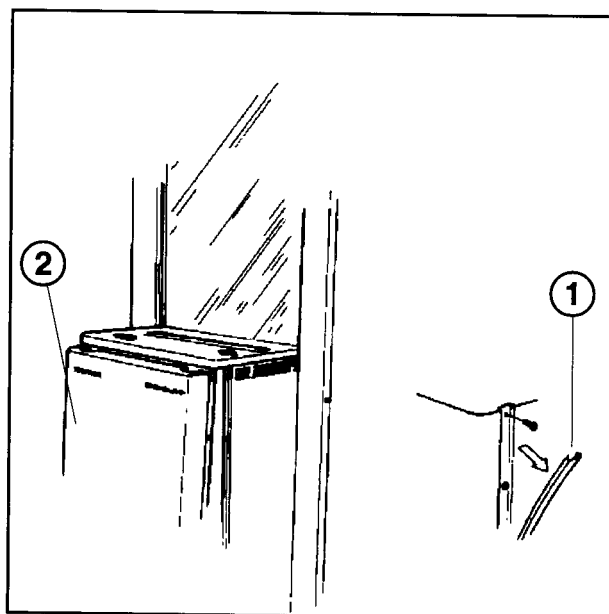

Fig. 9
- Pry loose the plastic strips (1/Fig. 9) on both sides, using a screwdriver or similar tool.
- Loosen the sixteen screws now accessible (eight on either side) and remove the front cover (2/Fig. 9).